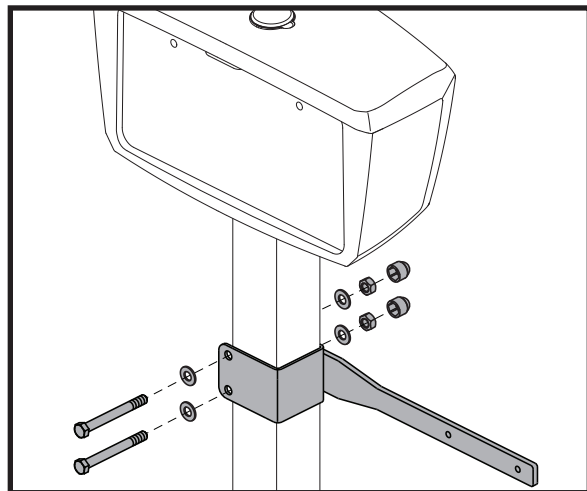

Figure 8. Accessory Bracket
2. Secure with supplied hardware. **See figure 8.**